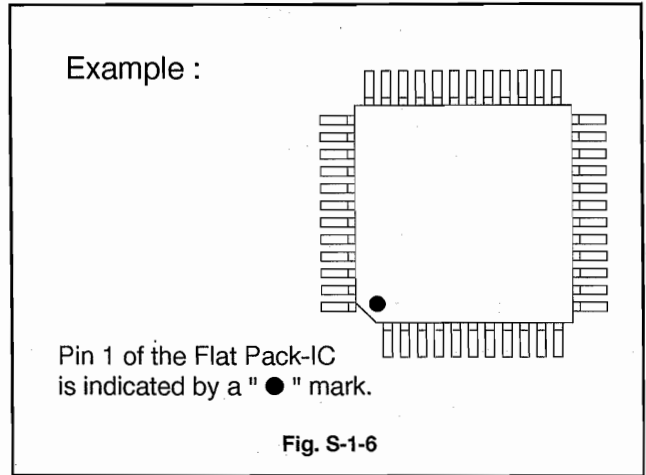
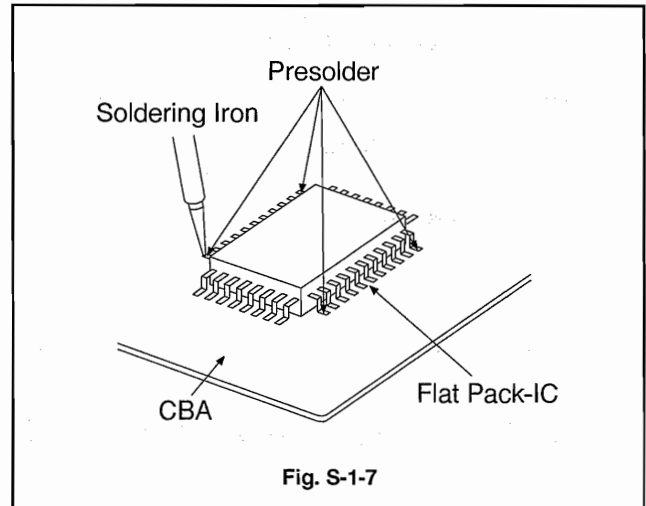

Fig. S-1-6
Fig. S-1-7
- b. The "●" mark on the Flat Pack - IC indicates pin 1 (See Fig. S-1-6). Make sure this mark matches the 1 on the CBA when positioning for installation. Then pre - solder the four corners of the Flat Pack - IC (See Fig. S-1-7).